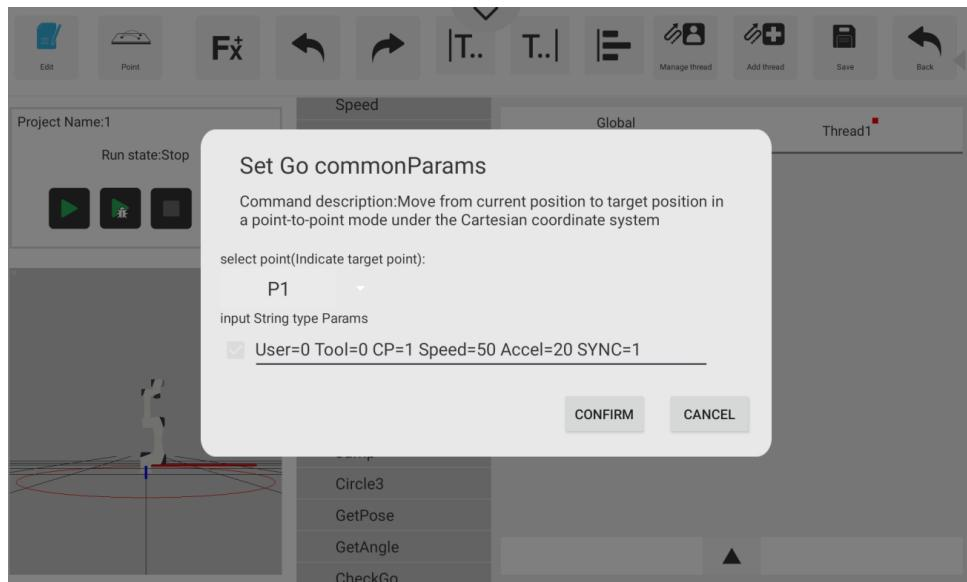

Figure 6.10 Edit program
**Step 4** Click **Edit** to edit program, click to select **Move>Go**, add two Go commands and select Point P1 and P2 in the two **Go** commands respectively, as shown in Figure 6.10.